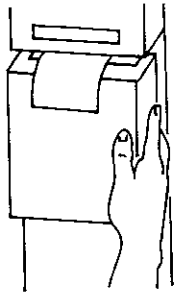

Figure 3.20 Opening the printer drawer.
1. Open the printer access drawer on the control panel (Fig. 3.20).